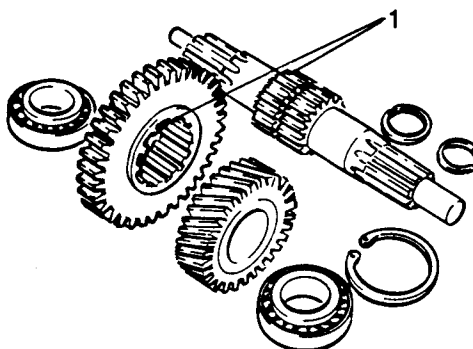

Fig H2.23
(1) Refer to Fig H2.23. Change all components that are worn or damaged. It is of utmost importance that the angles of the low gear splines (1) are not worn.